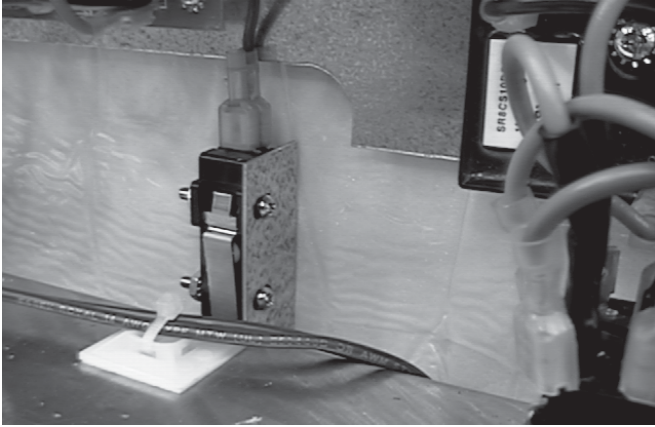

Figure 27. Safety Switch
1. Remove the two retaining screws from the switch and lift out. Figure 27.